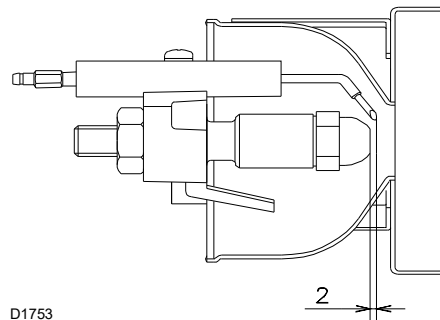

Fig. 12
- Make sure that the electrodes are positioned as shown in Fig. 12.